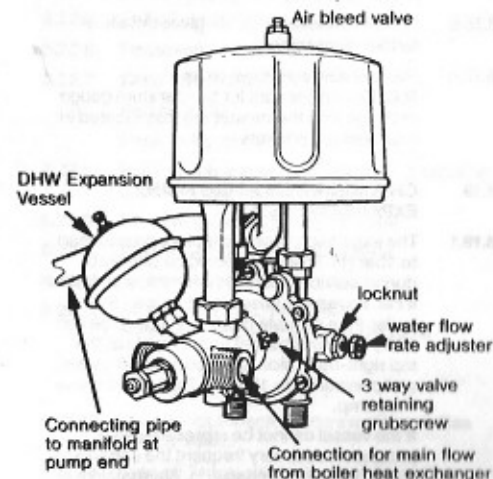

Fig. 36
Refer to figs 36, 37, 38 and 41
- 8.16.8 Disconnect 4 union nuts (fig 36).
Refer to figs. 36 & 37